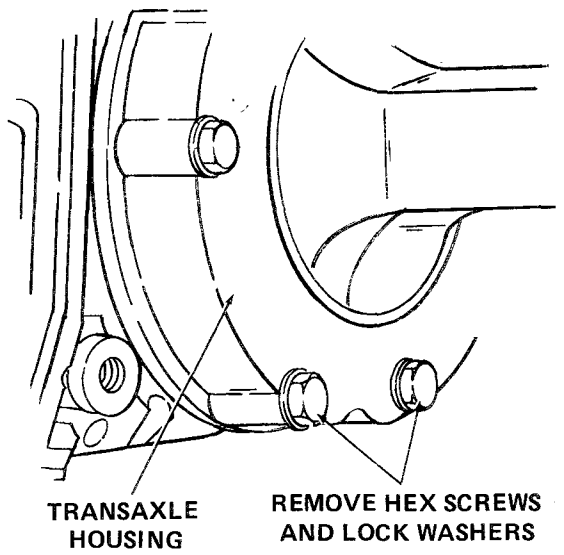

Figure A-12
- a. Remove lower two hex patch screws and lock washers from right transaxle housing. Save washers and discard screws. Refer to Figure A-12.